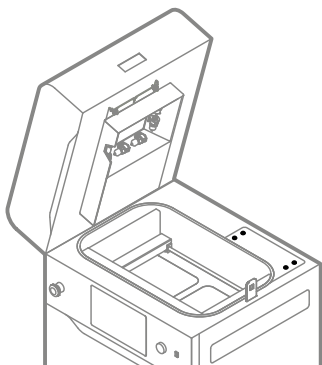

Fig. 12.71 Remove four screws from the access panel.
8. Using a 2 mm allen key remove the four screws securing the access panel on the top side of the printer (fig. 12.71).